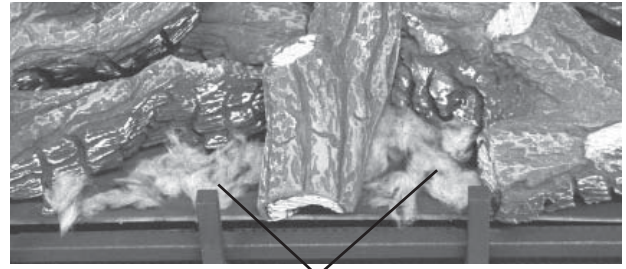

Figure 23
8. Place the glowing embers on the burner as shown in **Figure 23**.
IMPORTANT: The quantity and placement of the ember material can affect insert performance therefore it is very important that it be placed as shown in **Figure 23**.